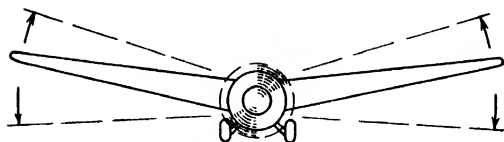

Fig. 160.—An illustration of lateral roll.
*Airplane 1:* It would be very difficult to build this wing strong enough to carry the normal weight of a plane. Why? However, it would have good lateral stability, which means it would not roll as shown in Fig. 160.